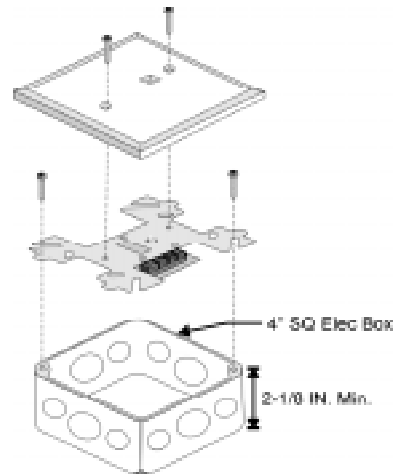

Figure 5: SD500-LIM Mounting
2. Place the SD500-LIM into the dual gang electrical switch box. See Figure 5.
3. Mount the SD500-LIM to the dual gang electrical switch box using two screws as shown in Figure 5.